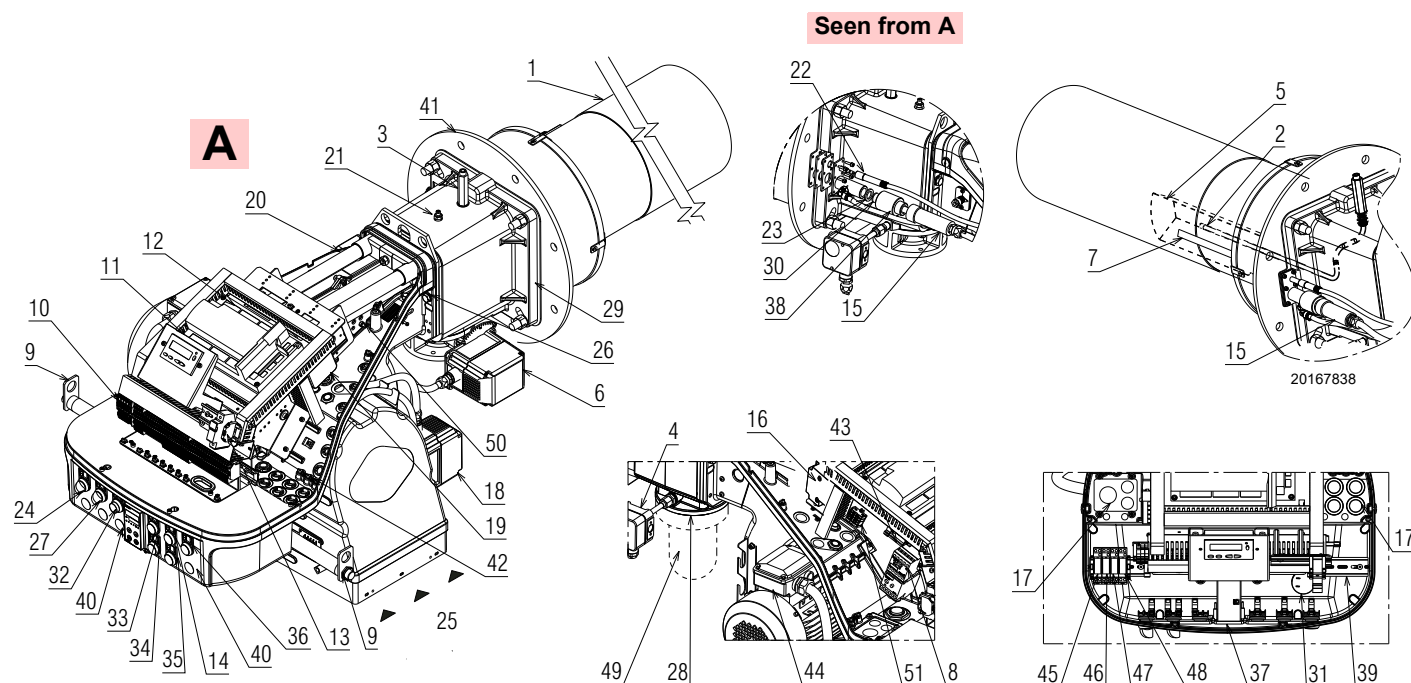

Fig. 5
- (1) Reference conditions: ambient temperature 68 °F (20 °C) - Barometric pressure 39.4" WC - Altitude 329 ft.
(2) Pressure at test point 21)(Fig. 5, page 11), with zero pressure in the combustion chamber, with open gas ring 2)(Fig. 15, page 21) at maximum burner output
(3) Sound pressure measured in manufacturer's combustion laboratory, with burner operating on test boiler and at maximum rated output. The sound power is measured with the "Free Field" method, as per EN 15036, and according to an "Accuracy: Category 3" measuring accuracy, as set out in EN ISO 3746.
If the flame safeguard alarm 36)(Fig. 5) lights up, it indicates that the burner is in lock-out. To reset, press the reset push-button.
release by pressing the pushbutton on thermal overload 8)(Fig. 5).